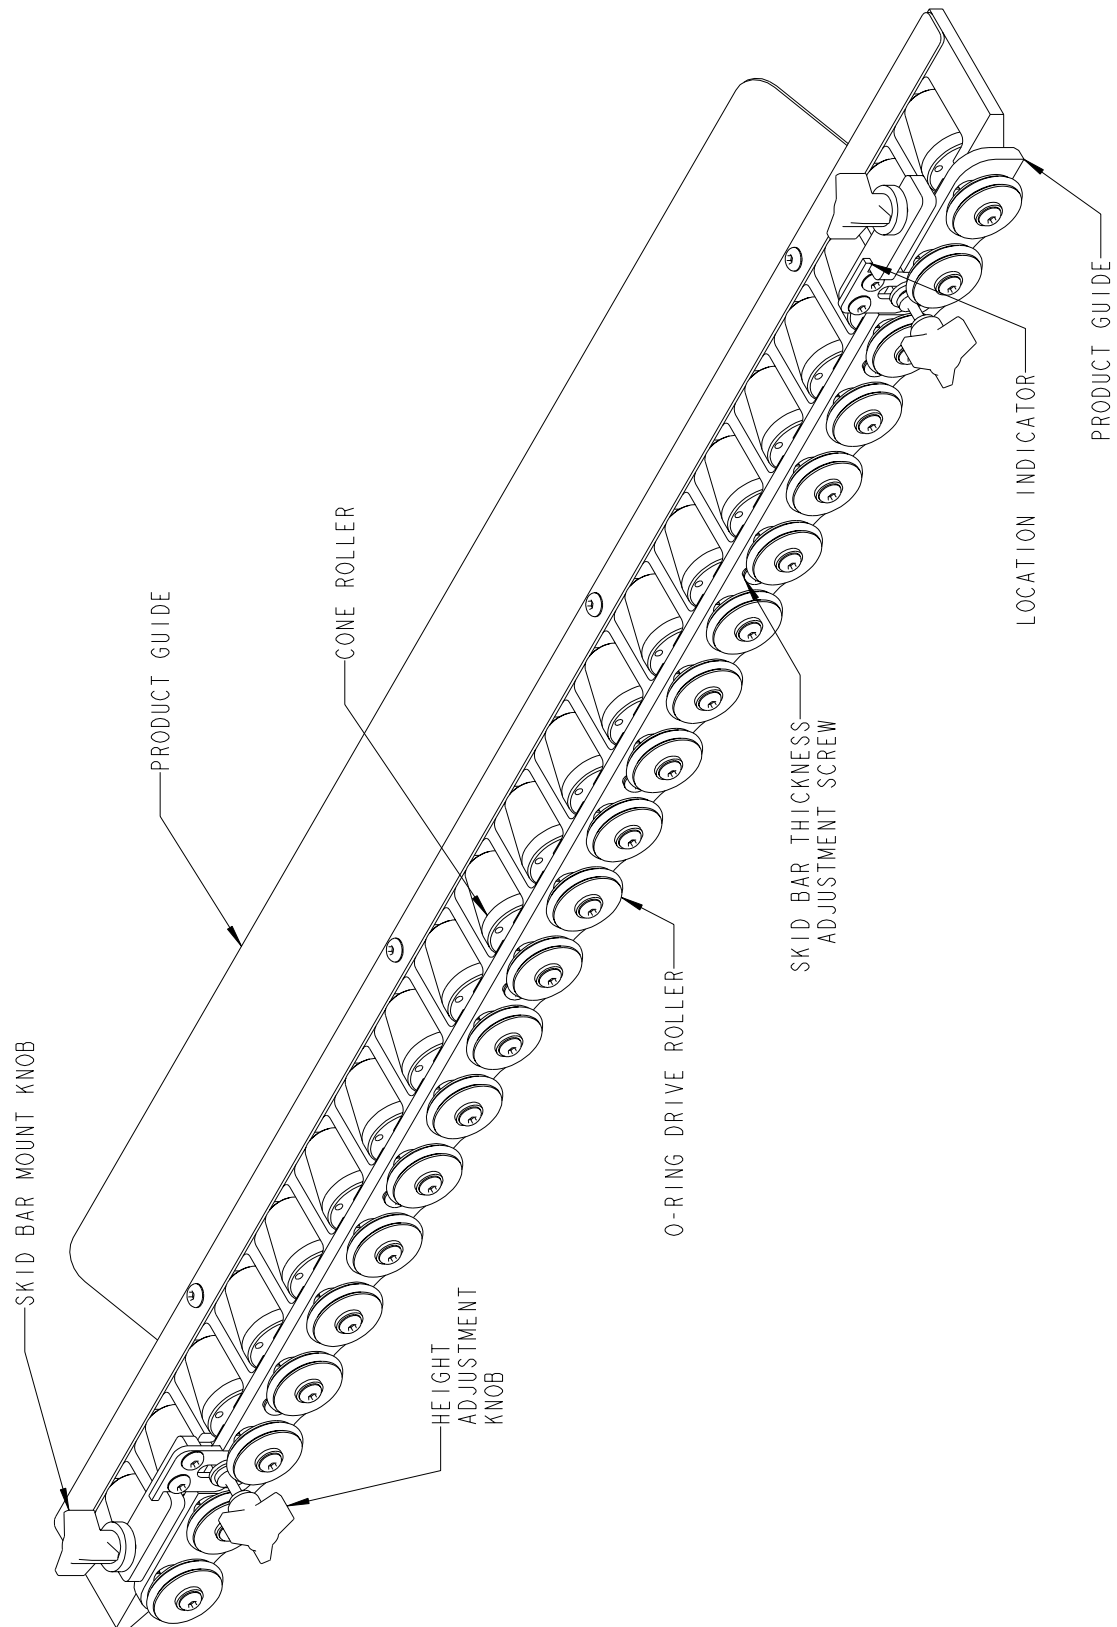

FIGURE 5.0
4.1.4 Optional Cone Skid Bar Component Description (See Figure 5.0)